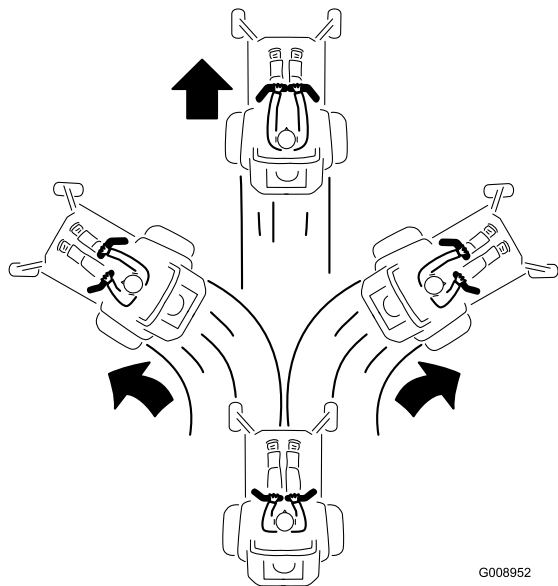

Figure 22
- 2. To go forward, slowly push the motion-control levers forward (Figure 22).